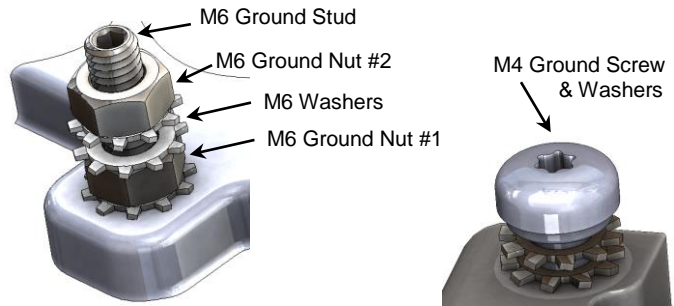

Figure 1: Grounding Hardware M6 & M4
2. Attach the ground cable onto the assembled Grounding Hardware and tighten. (*See Figure 1*) (*See Table 1*)
Torque Table (See Figures 1,2,3,4)
5. Adjust the length of the ground cable and fix it onto the tower ground connection. (*See Figure 1*)